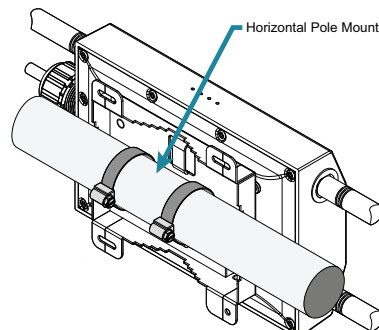

Figure 6. Horizontal Pole Mount
- Wrap the hose straps around the horizontal mounting pole and insert the end into the strap lock. Tighten the lock of the hose straps to secure the unit to the pole (as shown in Figure 6).